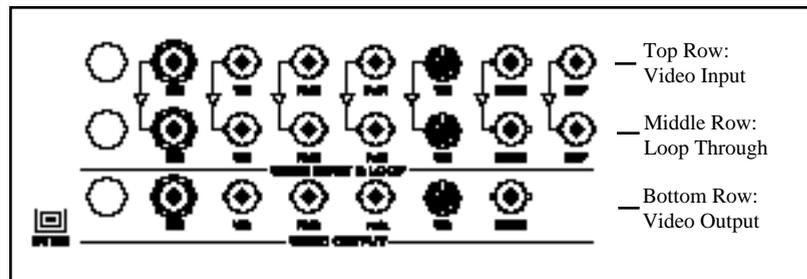

Figure 2-2 MADRAS Video Connector Layout
Your MADRAS unit supports Composite (CV), S-Video (Y/C), Component (Betacam, SMPTE/EBU, RGB), SMPTE 259M Component Serial Digital, and 1394 DV video signal formats. MADRAS also supports balanced analog, AES/EBU, and DV digital audio formats. Figure 2-2 shows the basic layout of the MADRAS connectors.
The top row of MADRAS connectors are the Video Input and Reference connectors (refer to Figure 2-2). Use these to attach your video input signals and your master video synchronization reference. Use the following guide to identify the proper attachments for your equipment: